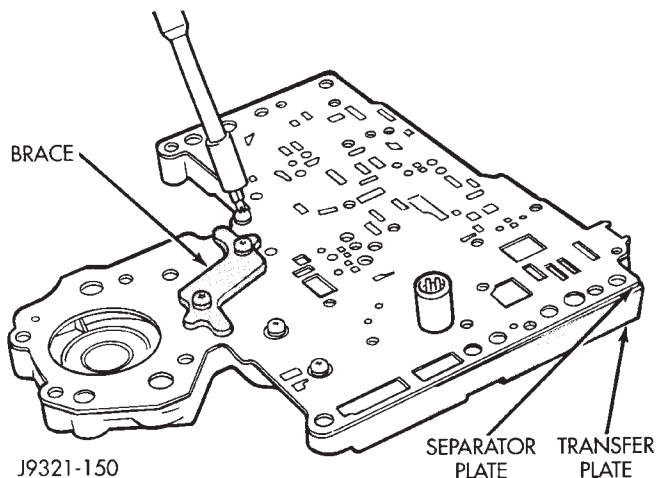

Fig. 76 Brace Plate
- (3) Align and position upper housing separator plate on transfer plate (Fig. 76).
- (4) Install brace plate (Fig. 76). Tighten brace attaching screws to 4 N·m (35 in. lbs.) torque.
- (5) Install remaining separator plate attaching screws. Tighten screws to 4 N·m (35 in. lbs.) torque.